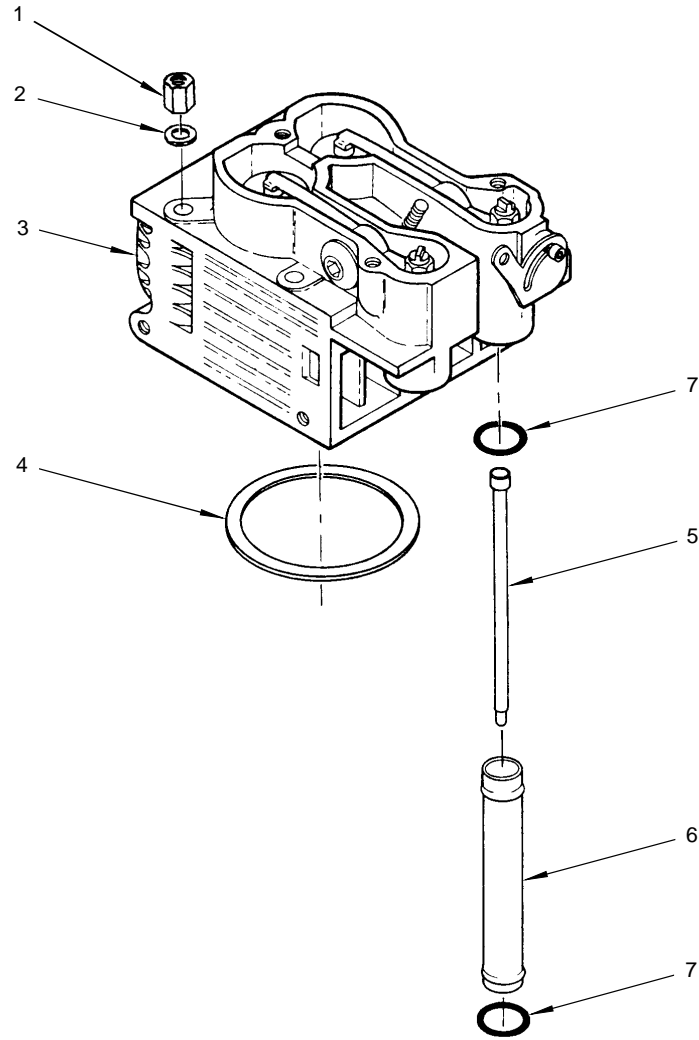

Figure 14. Cylinder Head Removal
**REMOVE CYLINDER HEAD AND CYLINDER** (Refer to figures 14 and 15.)
Refer to Figure 14.